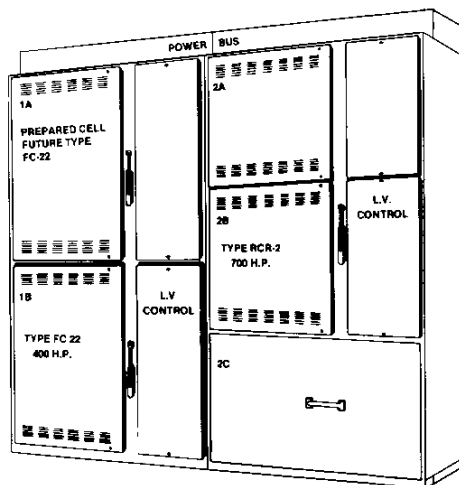

Figure 1
1. Prepare a sketch to determine the number of vertical sections required (similar to fig. 1). The space required for each controller is shown in the sketch on the price sheet. Some modifications need additional space. See page 18 for limitations.